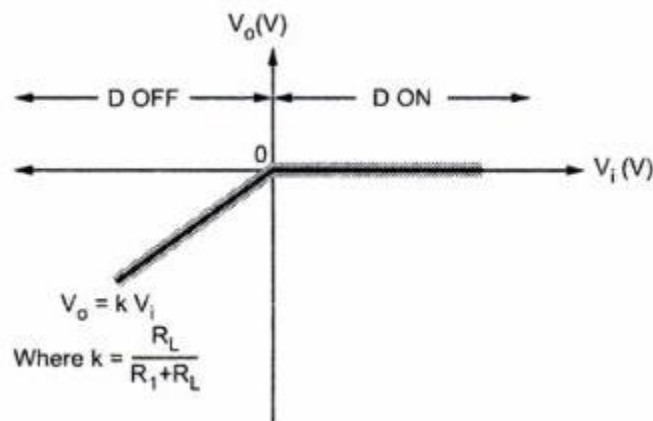

Fig. 1.62 Transfer characteristics of positive parallel clipper
- The transfer characteristics are shown in the Fig. 1.62.